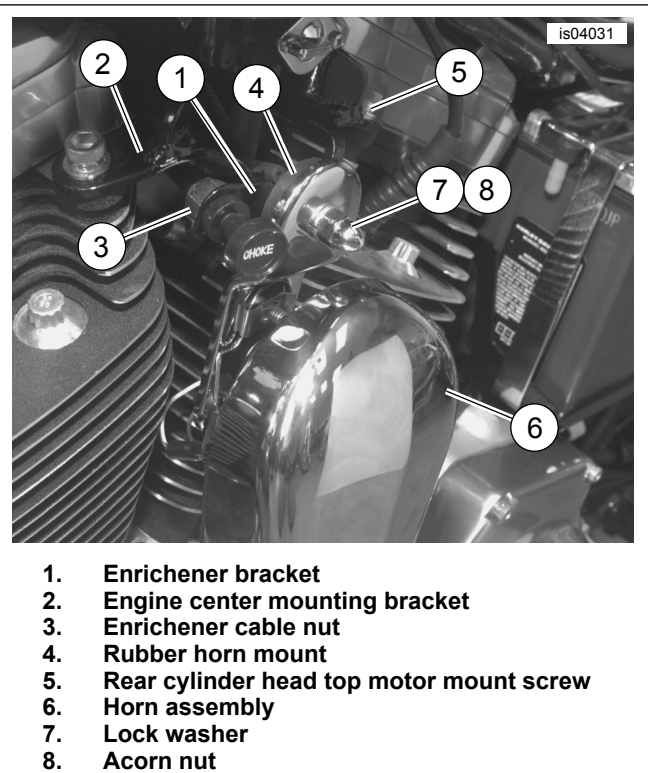

Figure 6. Horn Assembly Installation, 1995-2003 Models
8. See Figure 6. Position the new enrichener bracket (1), if used, to the engine center mounting bracket (2).